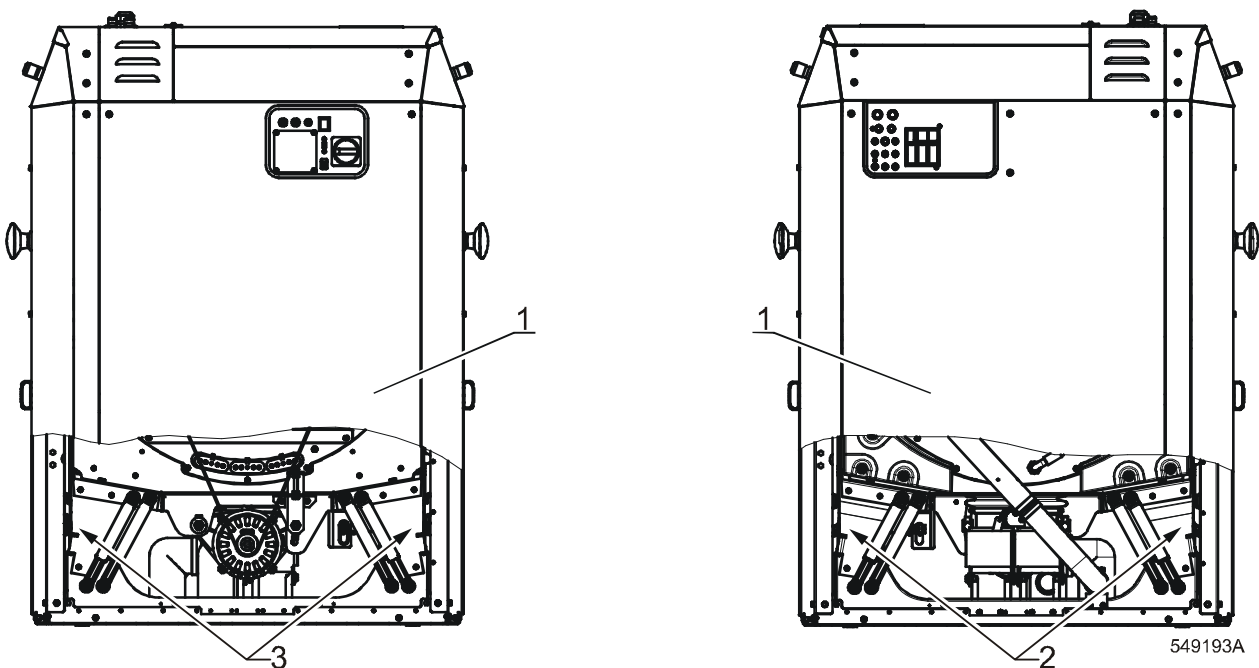

Figure 4
- Remove side panels, see Figure 4., pos. 1. Remove the bolts between the machine and pallet.
- Remove side panels, see Figure 4., pos. 1.
- Remove metal transport holders, pos. 2, 3.